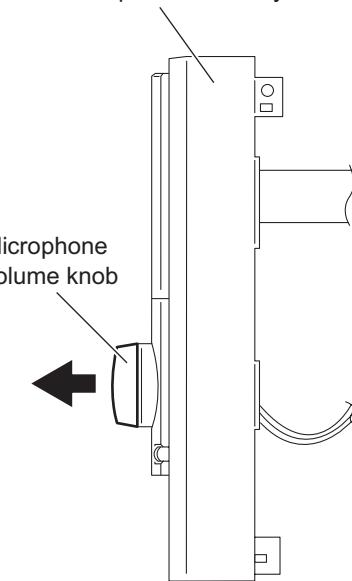

Fig.27
(See Figs.27 and 28)
- (1) From the front side of the front panel assembly, pull out the volume knob in to the direction of the arrow. (See Fig.27.)